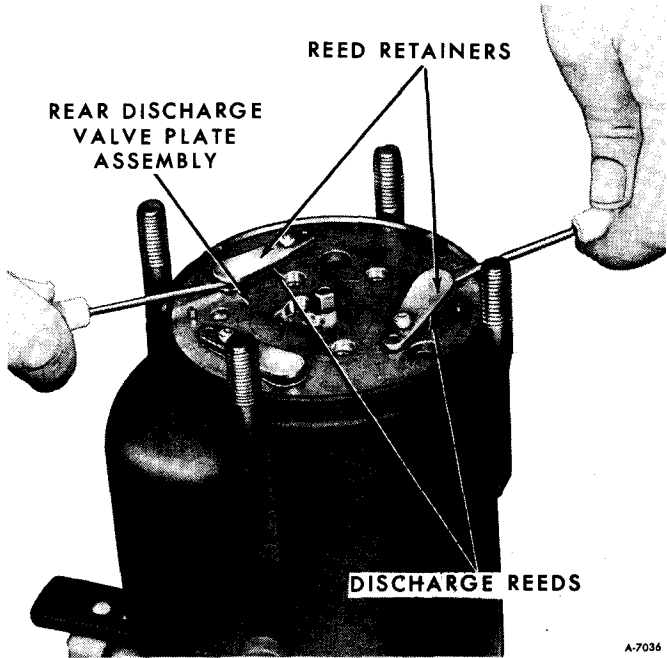

Figure 95—Removing Rear Discharge Valve Plate
9. Carefully remove rear discharge valve plate assembly. Use two small screwdrivers under reed retainers to pry up on assembly (figure 95). Do not position screwdrivers between reeds and reed seats.